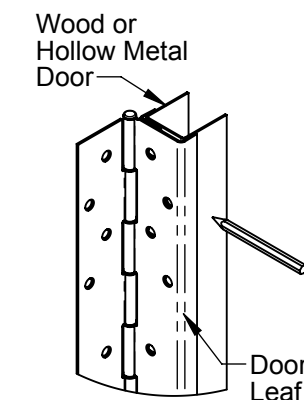

Fig. 2
1. Place the hinge door leaf on the edge of the door. Position the top of the hinge flush with the top of the door. (**Fig. 2**)